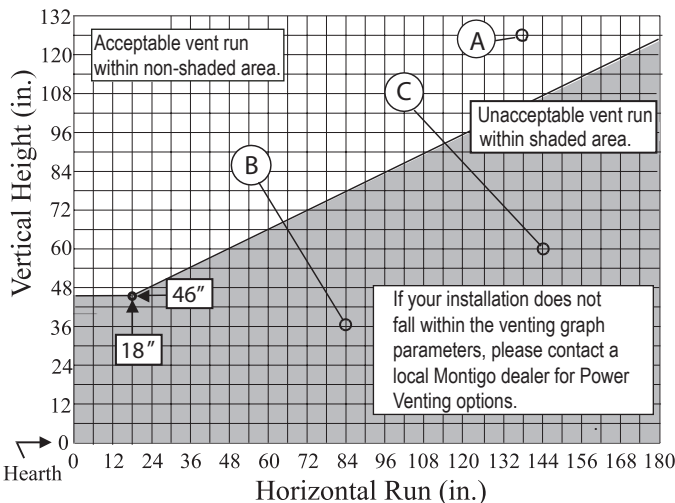

Figure 12. H38C* or HL38C* Top Vent Venting Graph for wall mounted terminations.
*** Note:** Elbow must be installed directly off the back of the fireplace. If additional horizontal distance is required the vent run must be increased a 2:1 Horizontal to Vertical ratio. See vent graph, **Figure 12 or 13** for rear vented, wall mounted terminations
- Once the proposed venting layout has been determined refer to either **Figure 12, 12a, 14, or 14a** to ensure the layout is acceptable.
- Venting runs *must* fall within the limits set by the venting graphs, see **Figure 12 or 12a**.
Measure the vertical height from the fireplace hearth to the centre of the termination and the horizontal run from the fireplace flue collar to the wall flange of the termination. Plot on the Venting Graph **Figure 12 or 12a** with an 'X'.
Figure 13. H38C* or HL38C* Top Vented, wall mounted installation with one 90° bend. The vent run must comply with Venting Graph for Top vent, wall mounted terminations, Figure 12.
Figure 13b. H38C*, HL38C* or HP38C* Top Vented, wall mounted Multi-elbow installation. See Venting Graph for Top vent, wall mounted terminations, **Figure 12 or 12a.**
Figure 13c. H38C*, HL38C* or HP38C* Top Vented, wall mounted Retracted Multi-elbow installation. See Venting Graph for Top vent, wall mounted terminations, **Figure 12 or 12a.**